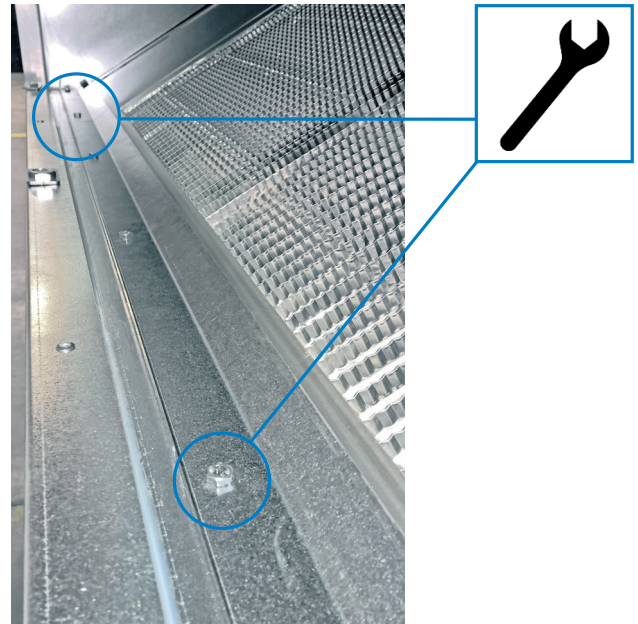

Figure 9
- Unscrew all guide fixing screws and remove all guides (Figure 9).